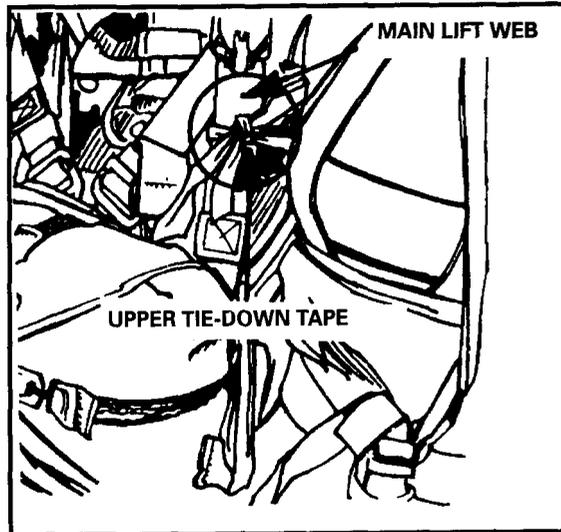

Figure 12-44. Upper tie-down.
c. The upper tie-down tape is routed around the left main lift web directly below the chest strap. It is tied snugly with a single-loop bowknot (Figure 12-44).